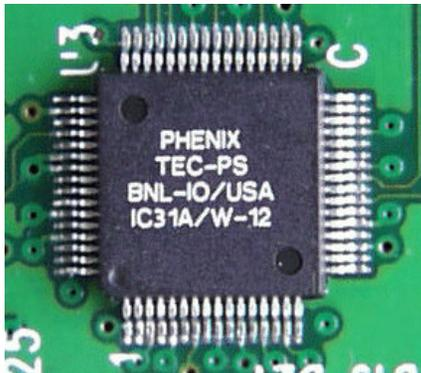

Figure 3. TECPS CMOS IC
The Time Expansion Chamber's Front-end electronics consists of a preamplifier and a 70ns shaping amplifier chain per channel, implemented as an Octal monolithic integrated circuit (IC). The output of the shaping stage is split into two outputs namely dE/dX and TR with a gain of x5 and x1 respectively. The IC has two modes of operation, Default mode and Serial mode. In the Default mode all 8 amplifiers are configured for a shaping time of 70ns, and dE/dX gain of 25mV/fC and TR gain of 5mV/fC and also the calibration and channel masks are set to enable. In the serial mode the IC is configured using a 3-wire serial interface. The TECPS is packaged using a 3-wire serial interface. The TECPS is packaged in a JEDEC 64 pin Quad Flat Pack (QFP) package. The TECPS chip can be identified by its marking as shown left in Figure3. The wafer identifier follows the IC31A marking. For further detailed information regarding this